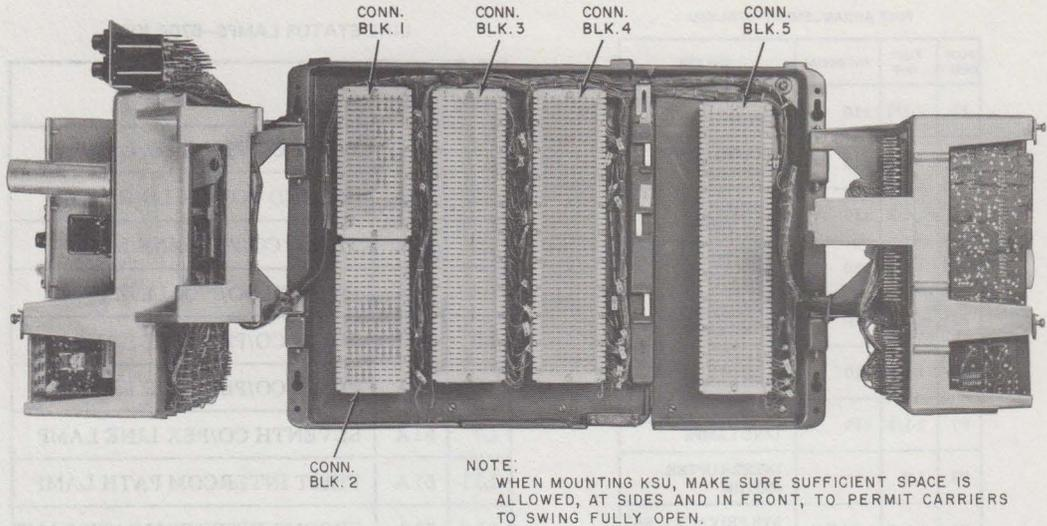

Fig. 2—570A KSU (Carriers Open)
2.04 All wiring connections are made on connecting blocks located in the KSU (Fig. 2). Since all stations pick up all lines on the same button at each telephone set, all equipment connections are factory-wired to the connecting blocks.